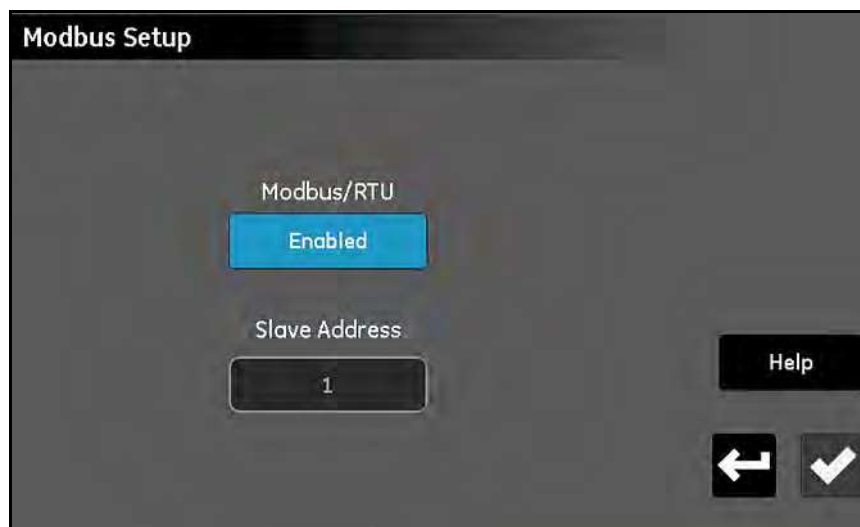

Figure 60: Modbus Setup Screen
1. From the *Configuration Menu* screen (see *Figure 47 on page 53*), tap the **Modbus** button to open a *Modbus Setup* screen similar to *Figure 60* below.